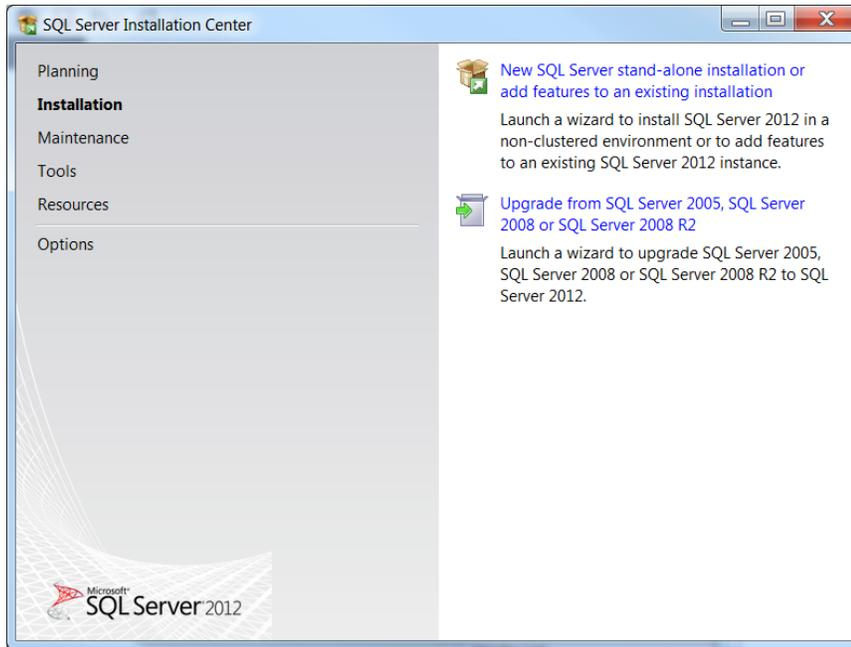

Figure 10: SQL Server Installation Center screen
- 4) When the SQL Server Installation Center window displays (Figure 10) , select the installation option: